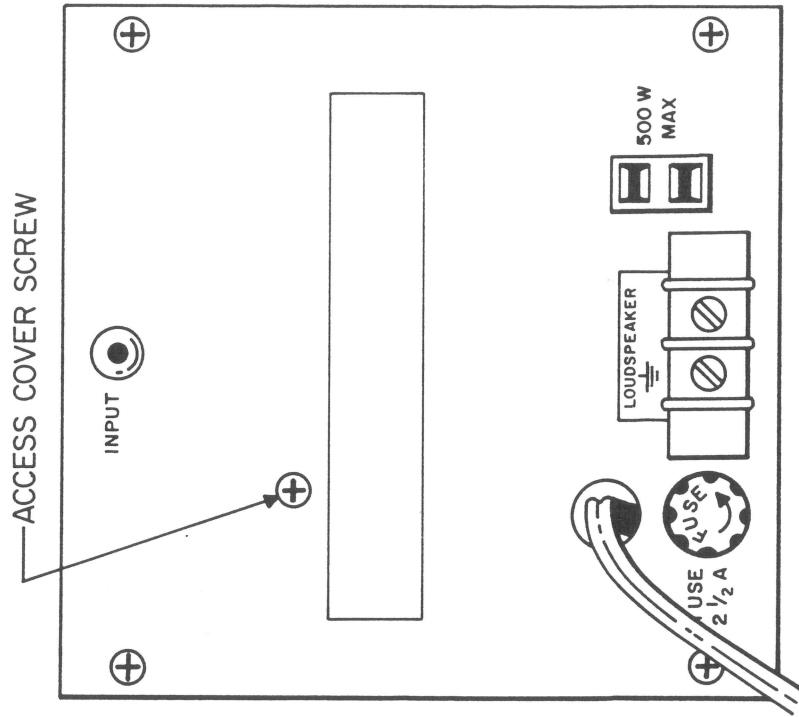

Figure 4. Location of D-C Balance Adjustment
- Step 6. If a significant difference of indications is observed, remove the access cover screw (See Figure 4.) and adjust the potentiometer inside the module, using a small, narrow-blade screwdriver. Adjust carefully, while observing the output voltage indication, until there is no discernible difference between the two indications described in Step 5.